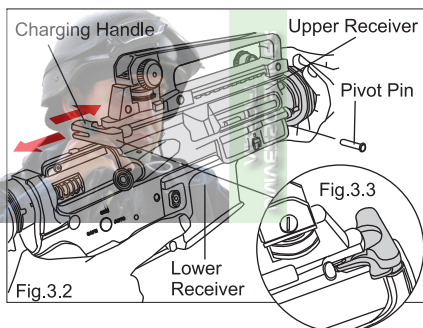

Fig.3.2
- 5 Take down the Pivot Pin. Pull the Charging Handle backward and release it gradually without locking it back to position as shown in Fig. 3.3. Hold the Lower Receiver and gently slide the Upper Receiver off. While sliding the Upper Receiver off, adjust the Charging Handle position so that it will not interfere with the gearbox that is attached to the Lower Receiver as shown in Fig. 3.2.